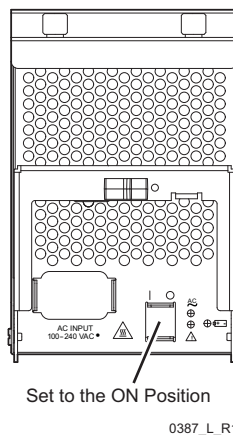

Figure 18-7. Set the Power Supply to the ON Position
- 10 Ensure the power supply switch is in the off position (Figure 18-7).
- 13 Set the power supply to the ON position (Figure 18-7).